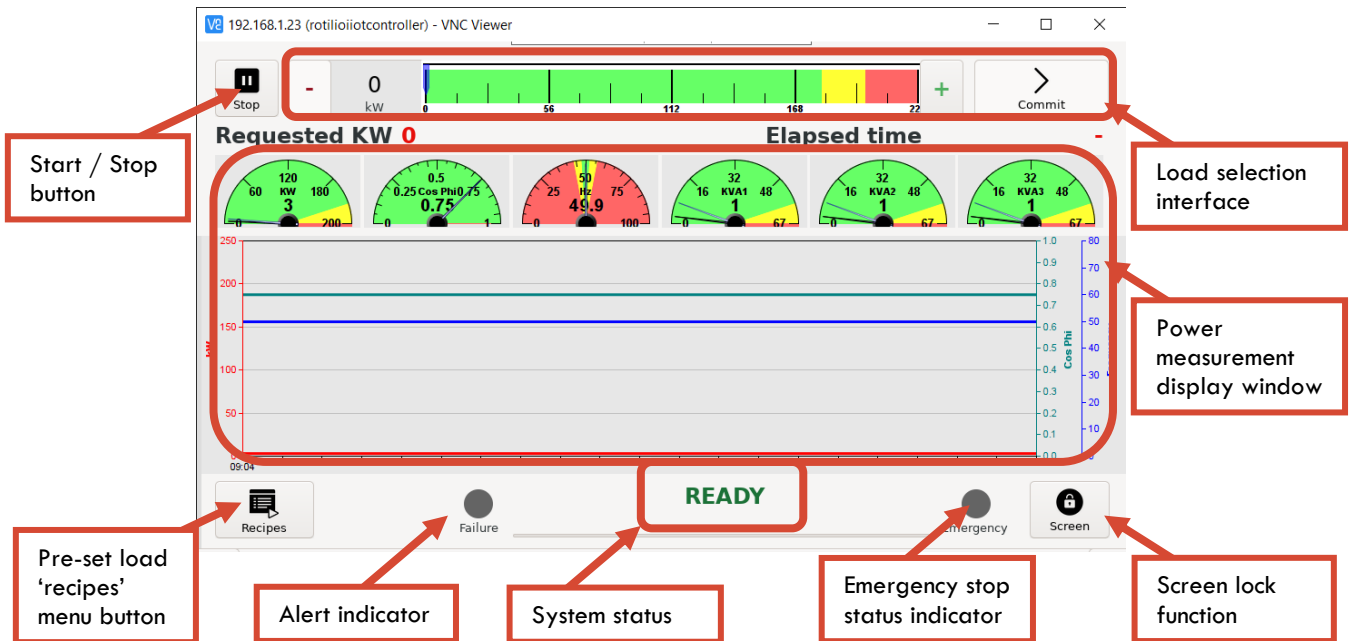

Figure 6 - DIGILOAD HMI interface
3. The system status will be displayed as "IDLE" – see Figure 6.